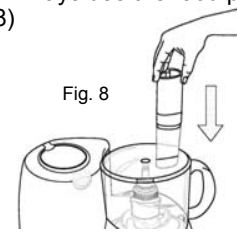

Fig. 8
7. Keep hands and utensils away from the cutting blade while chopping food., to reduce the risk of severe injury to persons or damage to the food processor. A scraper may be used, but **ONLY** when the food processor is **NOT** running and has been unplugged. **Never** feed food by hand. Always use the food pusher. (Fig. 8)